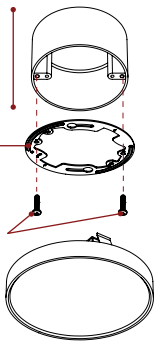

Figure 2
2. Align the mounting plate to the junction box and fasten the screws on the appropriate hole. (Refer to Figure 2 for appropriate holes) **Note:** Tighten the screws until the mounting plate is firmly against the ceiling, but do not overtighten the screws. Overtightening could distort the mounting plate, causing an uneven installation.